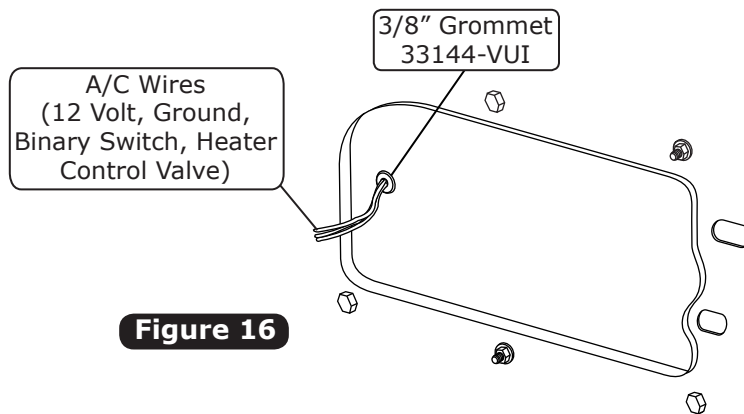

Figure 16
2. Route the A/C wires (12 volt/ground/binary switch/heater control valve) through the 3/8" grommet as shown in Figure 16, below.